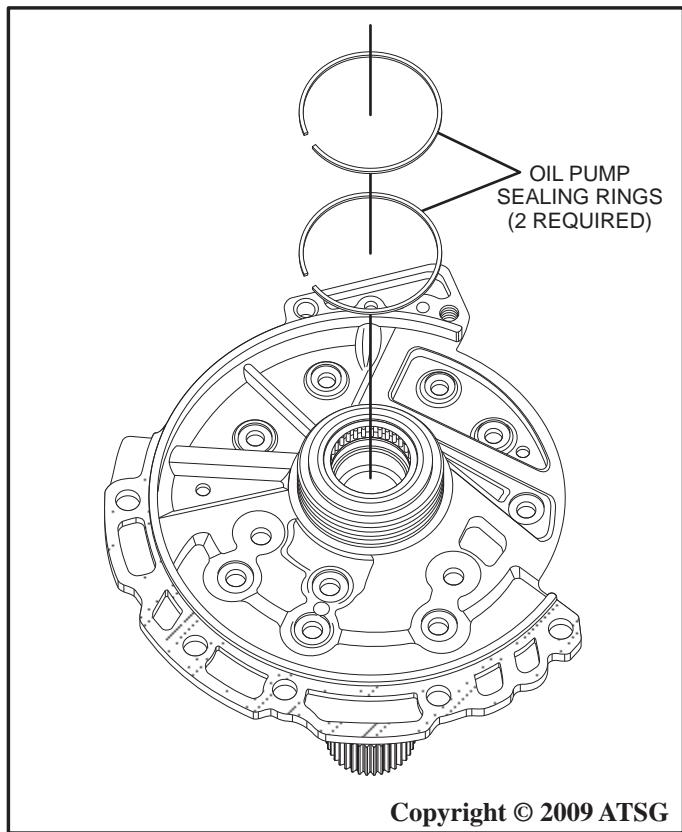

Figure 87
3. Remove the two pump body teflon sealing rings (*if not previously done*) as shown in Figure 87.